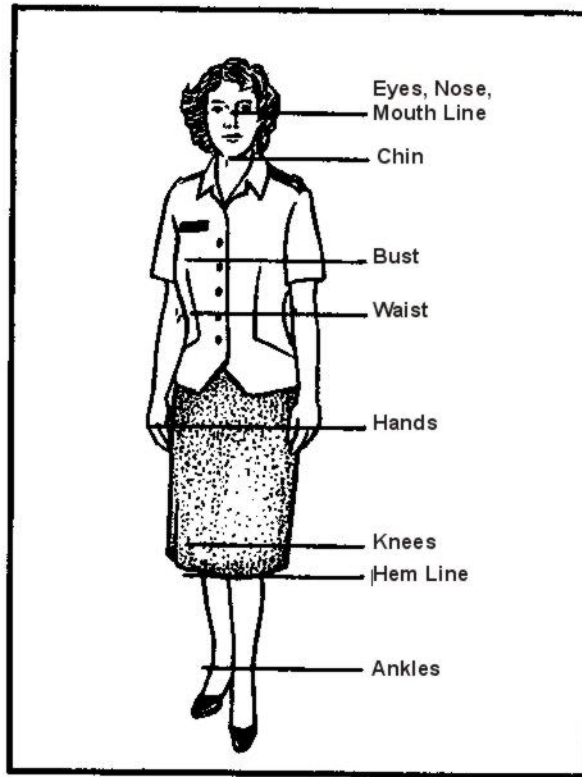

Figure H-19. Natural Cutoff Lines
b. Figure H-19 through Figure H-24 show examples of natural cutoff lines used in the television shot composition.